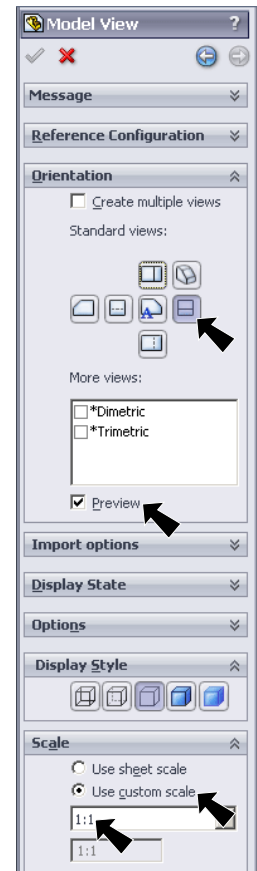

Fig. 1
Step 5. In the Property Manager, under **Orientation** click **Right**  check **Preview** under **Scale** select **Use custom scale** and set scale to **1:1**, Fig. 1.